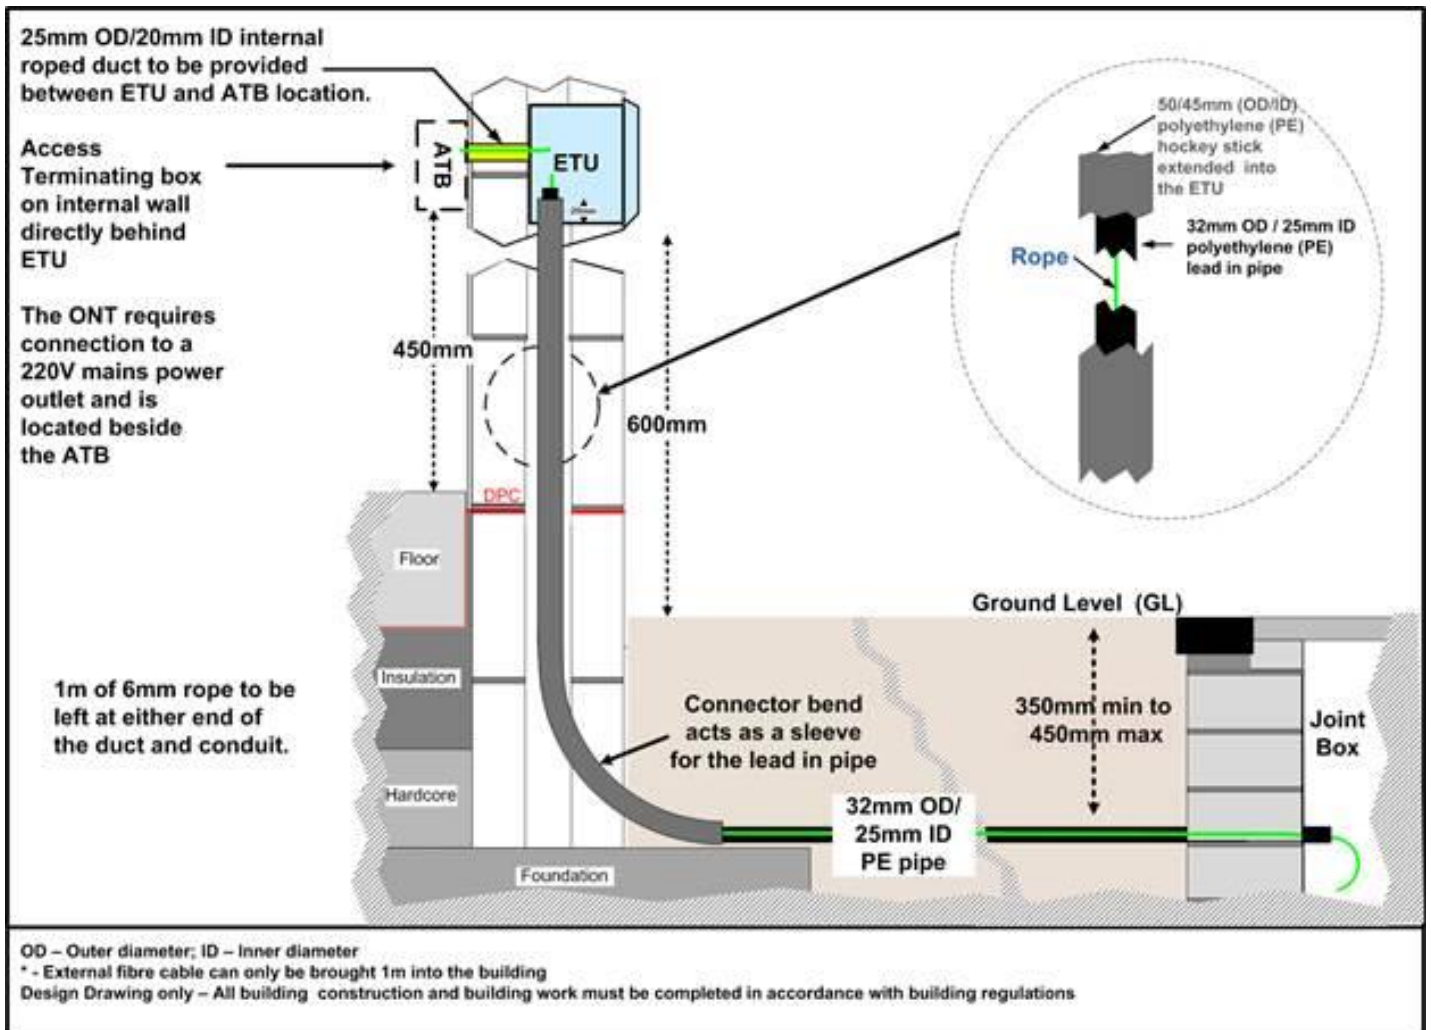

Fig 3 Technical specification for ETU installation.
- The duct must extend into the ETU (Fig 3 page 10)
Where a New house is being built an ETU must be inserted in the external wall at a convenient location in accordance with the building regulations shown in Fig 3 below.